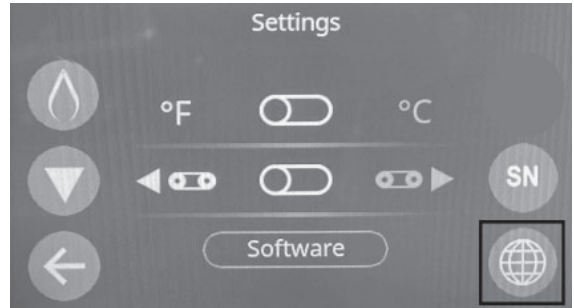
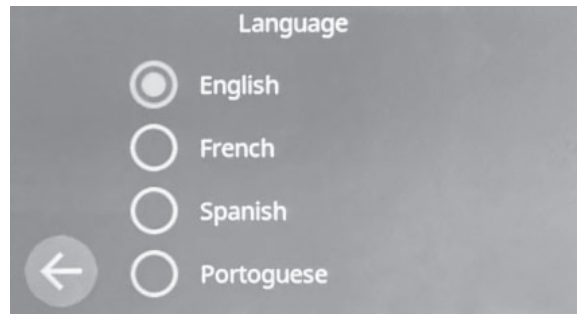

Figure 29
Figure 30
- 7. Display Language - From the main settings screen, press the  highlighted below in (Figure 29) to change the display language in the UI. (Figure 30)